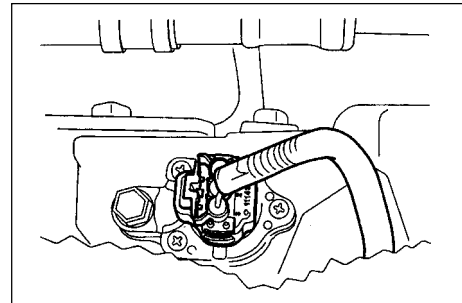

Figure 6-2
1. Disengage the vehicle speed sensor (see Figure 6-2).